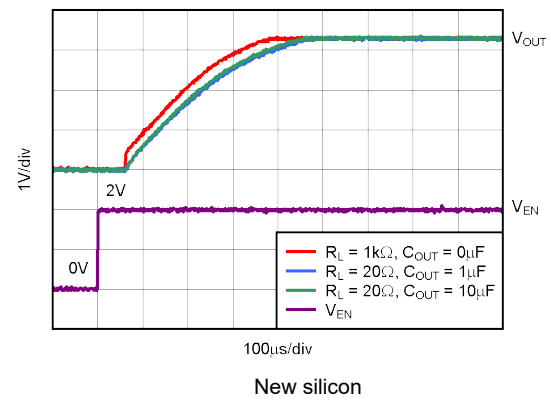

Figure 5-40. TPS73633 Turn-On Response
The enable pin (EN) is active high and is compatible with standard TTL-CMOS levels.  $V_{EN}$  below 0.5V (max) turns the regulator off and drops the GND pin current to approximately 10nA. When EN is used to shutdown the regulator, all charge is removed from the pass transistor gate. A  $V_{EN}$  above 1.7V (minimum) turns the regulator on and the output ramps back up to a regulated  $V_{OUT}$  (see Figure 5-40).